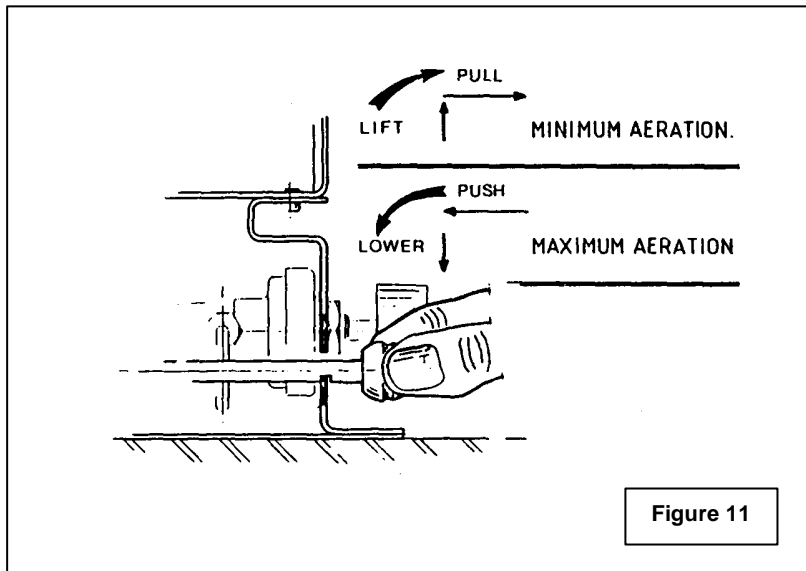

Figure 11
- Allow the appliance to warm up, (for at least fifteen minutes) in the fully aerated position, with the control lever pushed in to the locked position – see figure 11.